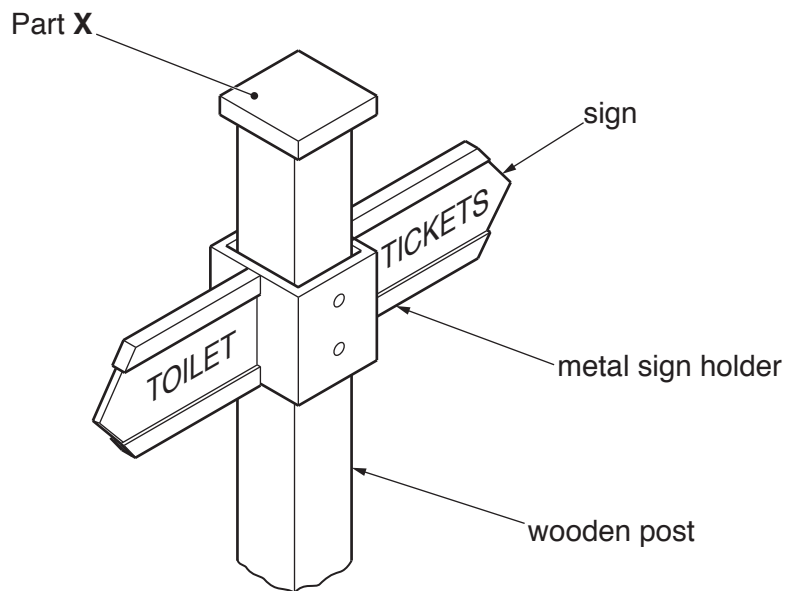

Fig. 4.1
- 4 Fig. 4.1 shows a free standing sign for an events management company. The sign allows the company to alter the direction and wording depending on the event.